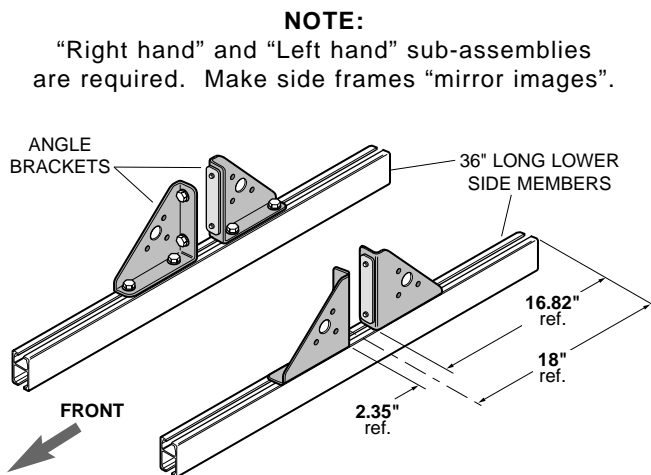

Figure 2.
2. Locate two angle brackets and two T-plates. Place two 36" aluminum frame members on floor with large slot down. Affix angle brackets to side members by sliding track nuts into aluminum rails. Position as shown in Figure 2, and finger tighten track nuts.